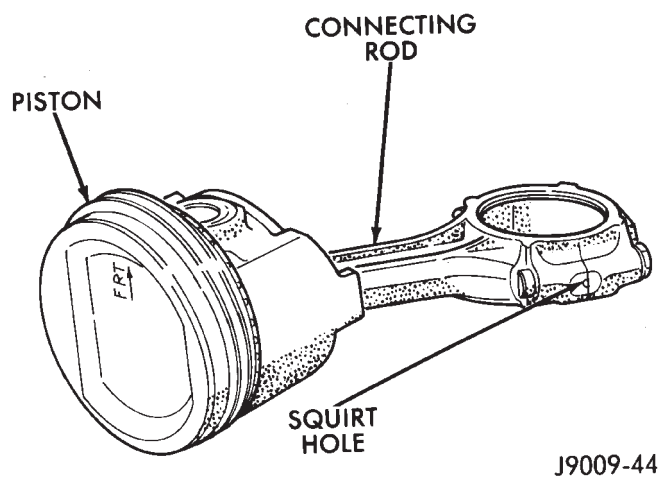

Fig. 18 Correct Alignment—Piston and Connecting Rod
(1) Insert the piston pin pilot through the piston and connecting rod pin bores. Ensure that the arrow on the piston crown is pointing up (Fig. 18).
(2) Position the pin pilot, piston and connecting rod on a support with the squirt hole of the connecting rod to the left-hand side (Fig. 18).